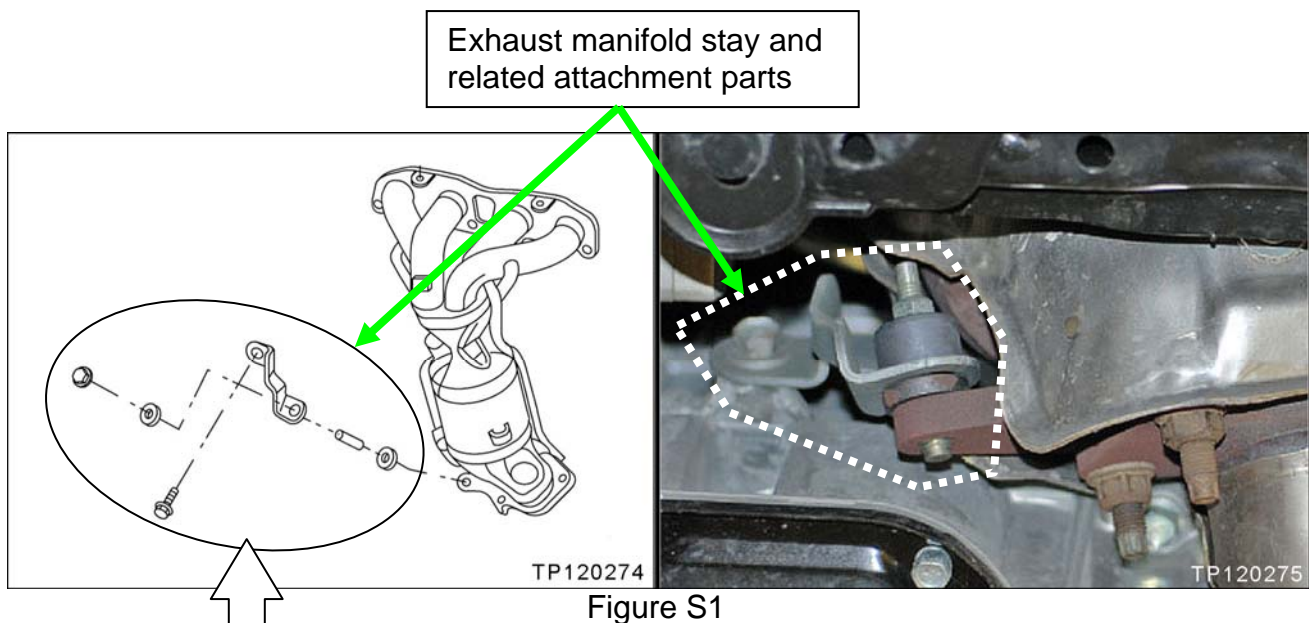

Figure S1
1. Remove the exhaust manifold stay and the related attachment parts (see Figures S1 and S2).